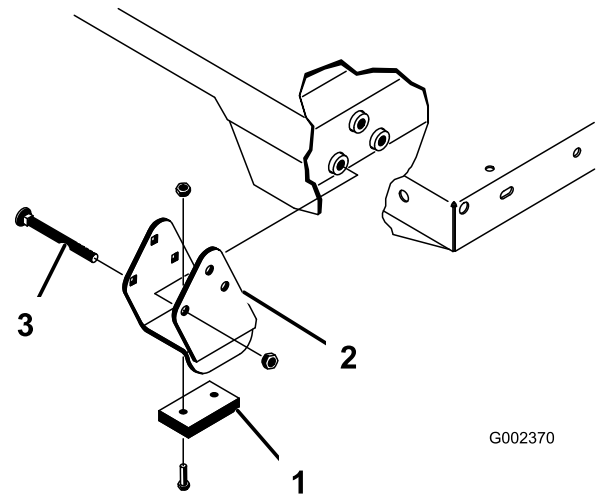

Figure 32
2. Carefully set the bed onto the machine frame, aligning the rear bed pivot-plate holes with the holes in the rear frame channel, and install the 2 clevis pins and lynch pins (Figure 32).
4. Insert the clevis pin from outside of the bed with the lynch pin oriented toward the outside (Figure 32).
Ensure that the spacer brackets and wear blocks (Figure 32) are installed with the carriage-bolt heads positioned inside the machine.